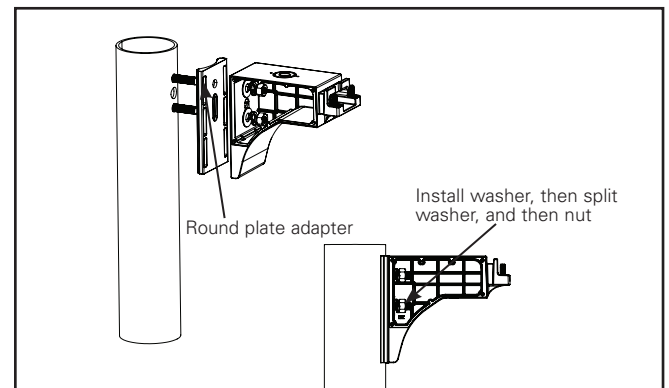

**Figure 7.**
- Remove the cover plate on the pole mount arm by removing the four Phillips head screws and using the pull tab labeled "open". No need to completely remove the four Phillips head screws, there is a rubber ring on each screw to hold it to the cover plate. Set door aside. (Figure 7.)
- Reinstall cover plate on to pole mount arm via four Phillips head screws (Figure 7.) Torque to 10 in-lbs.